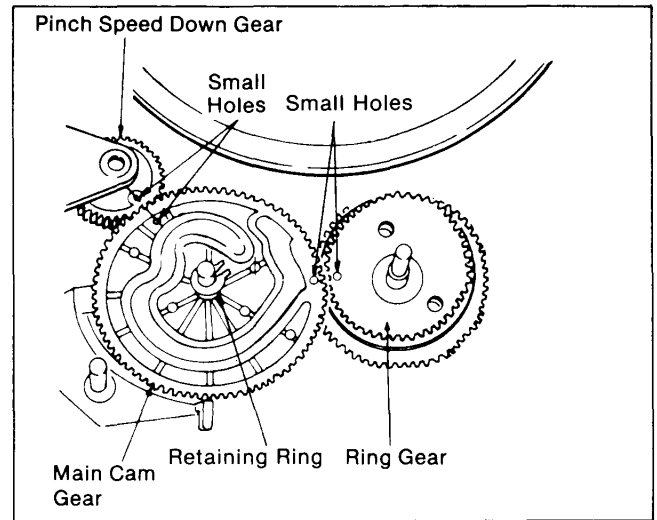

Figure M49
1. Install the Main Cam Gear onto the Sub Cam Gear so that the small hole on the Main Cam Gear aligns with small hole on the Ring Gear as shown in Figure M49.
3. Install the Pinch Speed Down Gear from top side of chassis so that the small hole on the Main Cam Gear aligns with small hole on the Pinch Speed Down Gear as shown in Figure M49.